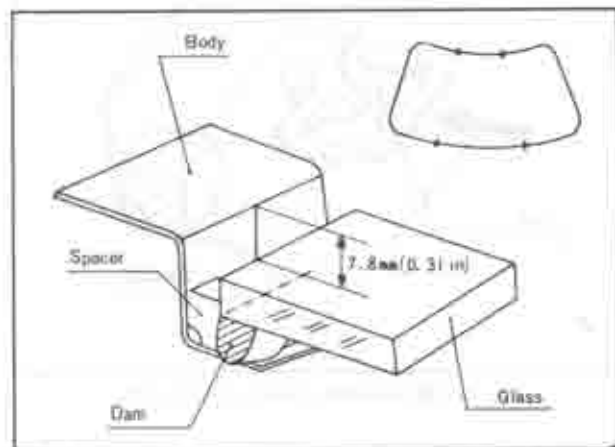

Fig. 14-36 Adjusting clearance
4. When installing the glass, **7.8 mm (0.31 in)** clearance should exist between the body and the glass. Check the clearance at the four portions shown in Fig. 14-36.